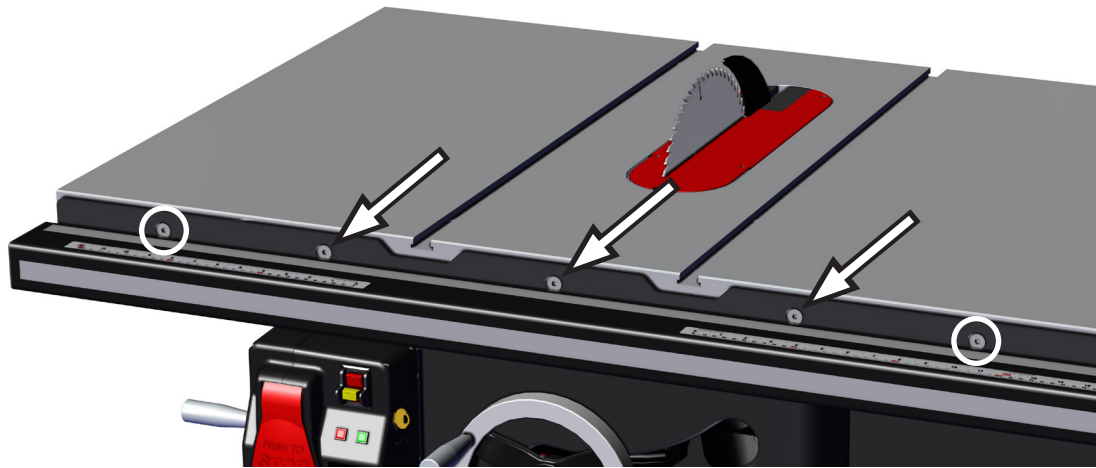

Fig. 1
1. **Installing the Front Rail:** The first step in installing the fence is to attach the front rail to the table. Please see pages 14 and 16 for exploded views of the rails and extension tables. The rails are shipped in the long cardboard box packaged with the main tube. The front rail is the larger of the two and includes 5 countersunk holes that are used to mount the rail to the front of the table. To mount the front rail, position the rail along the front of the table with the cut-outs at the top of the rail centered on the miter gauge slots in the table. Thread three M8 x 25 (6) countersunk socket head bolts into the threaded holes in the front of the main table, indicated by the arrows below. See Fig. 1. Tighten the bolts using the 5 mm hex driver.
Next, mount the front rail to the cast iron extension wings using two M8 x 35 (2) countersunk socket head bolts (the longer bolts), two M8 washers (3), two M8 lock washers (4) and two M8 hex nuts (5). Position the bolts through the front rail and the extension table, then install the washer, lock washer and nut (in that order) on the end of the bolt, indicated by the circles shown above in Fig. 1. The holes in the extension wings are not threaded and are slightly larger than the bolts they receive. If necessary, use the rail to pull the wings up or down slightly until the wings are flush with the table. Then tighten the nuts to secure the wings in place.